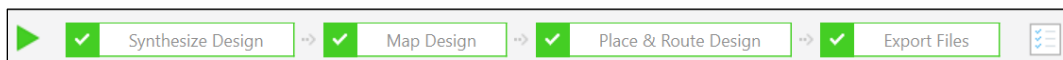

Figure 5.9. Compilation Completed
- The compilation flow takes some time to complete. As shown in Figure 5.9, when the compilation completes successfully, the *mipi_csi_to_pcie_impl_1.bit* file is generated or updated in the project path: <Project Directory>\rd02338_mipi_csi_to_pcie\fpga_lfcpnw\radiant\impl_1.